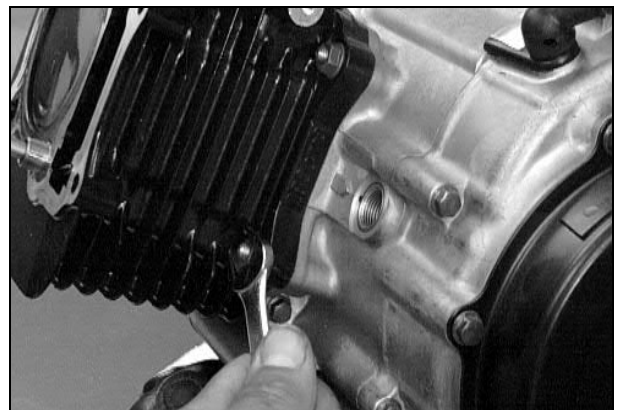

Fig. 47
11. Remove the two nuts securing the cylinder to the crankcase, (Fig. 47).